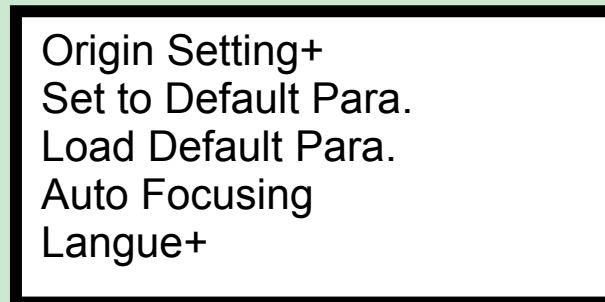

Figure: 8.2-9
5) After the “Set to Default Para” in Figure 8.2-9 is selected and the Enter key pressed, the interface will show the specific password to be entered when set as default parameter.
6) After the “Load Default Para” in Figure 8.2-9 is selected and the Enter key pressed, the “Successful Recovery” dialog box will pop up to prompt that all manufacturer parameters and user parameters are recovered successfully. You can return to the previous menu by press the Enter key.